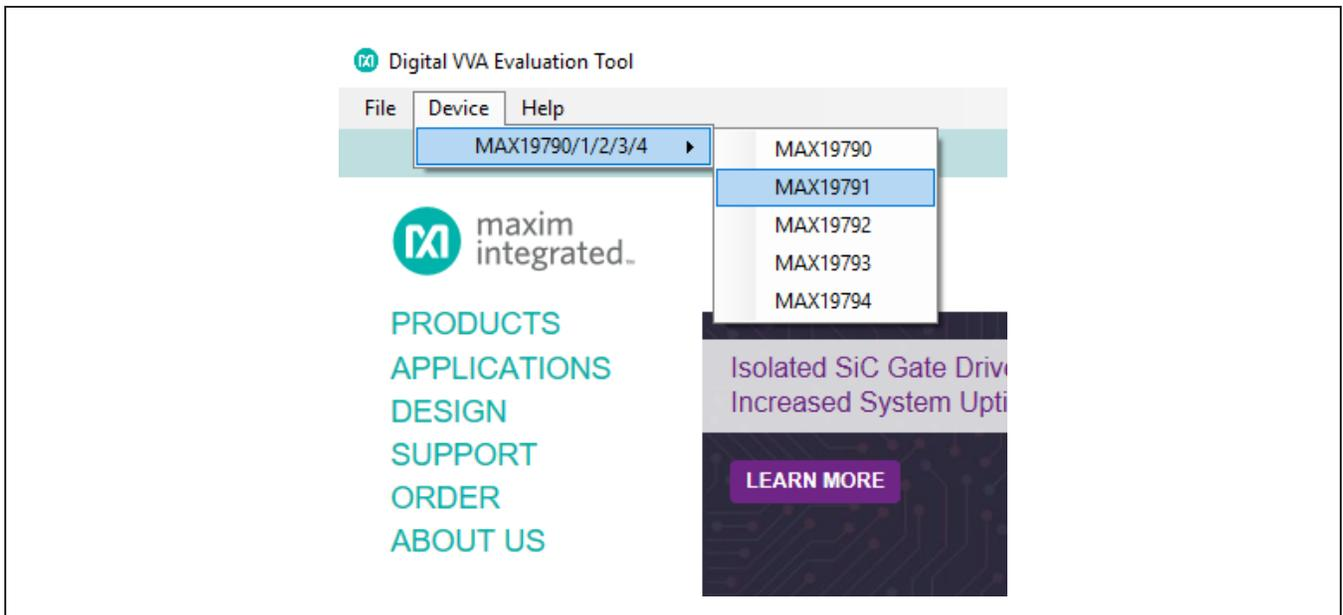
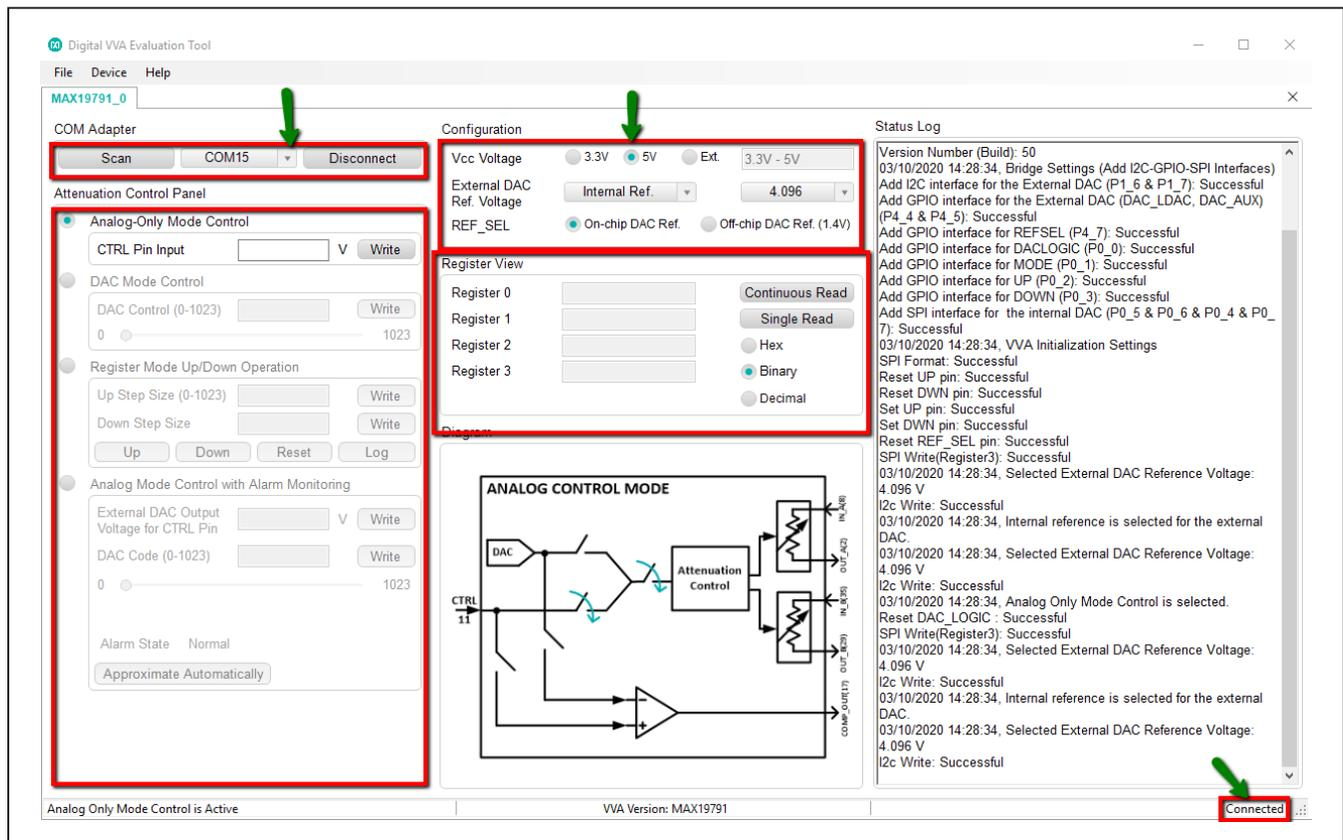

Figure 2. Part Selection in Common GUI
Figure 3. GUI View
- Open the Digital VVA GUI.exe software. Click on the **Device** tab and select the MAX19791 from the drop-down box. See Figure 2. Click the **Scan** button in the **COM Adapter** section and select the appropriate COM port from the drop-down box. Click the **Connect** button. The **Connected** message appears on the right bottom of the GUI. See Figure 3.